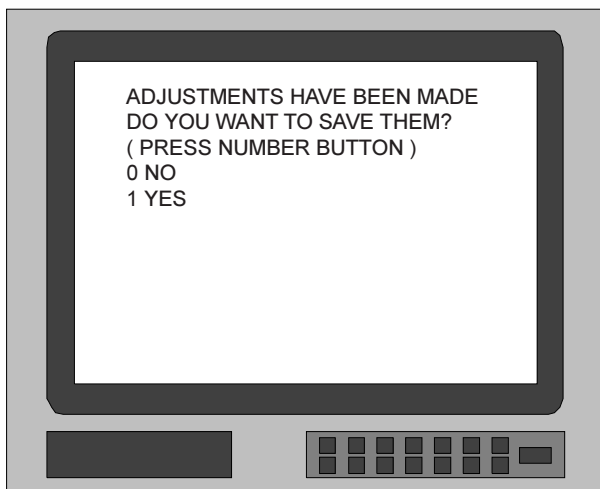

Figure 7
8. Press pushbutton E a second time to exit the MAIN SYSTEM SETUP MENU and the Adjustment Acceptance screen will appear. Refer to Figure 7.
11. Press E a second time to exit the MAIN SYSTEM SETUP MENU and the Adjustment Acceptance MENU will appear on the Monitor/TV screen. Refer to Figure 7.
23. Press E a second time to exit the MAIN SYSTEM SETUP MENU and the Adjustment Acceptance MENU will appear on the Monitor/TV screen. Refer to Figure 7.
8. Press E a second time to exit the MAIN SYSTEM SETUP MENU and the Adjustment Acceptance MENU will appear on the screen. Refer to Figure 7